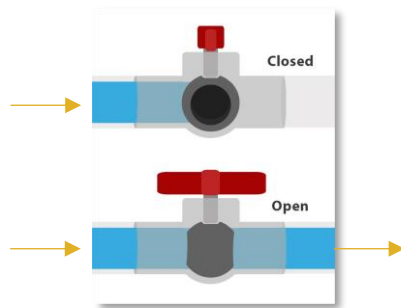

Figure B.2
B.1.3 Close drain valves. See *Figure B.2* as an illustration.